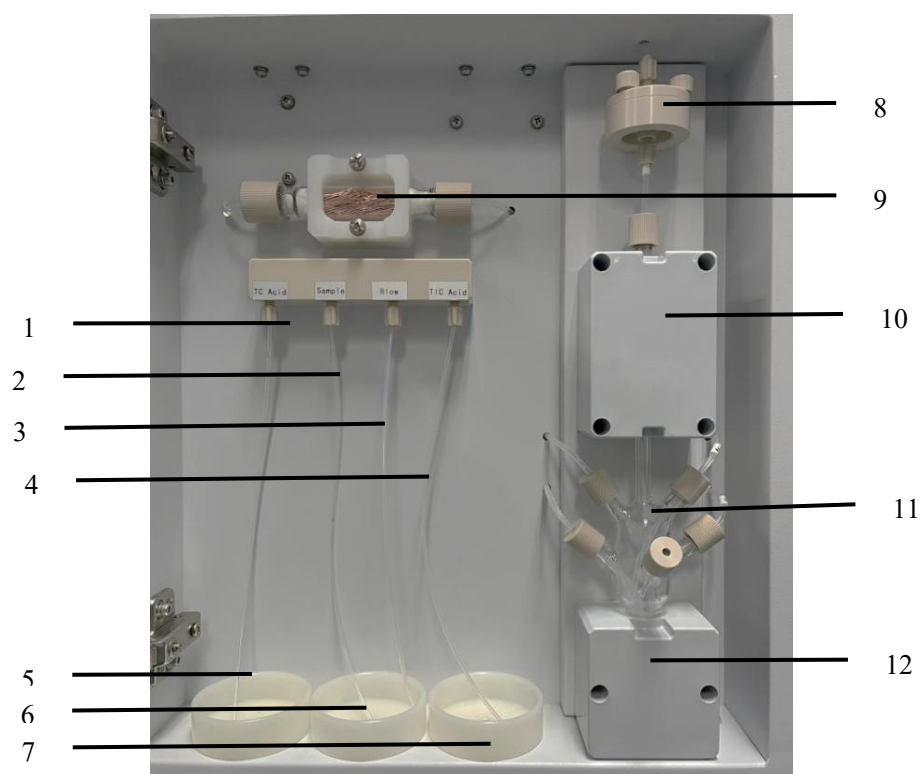

Fig .3.1
3.2.2.1 The front view is shown in Fig. 3.1.